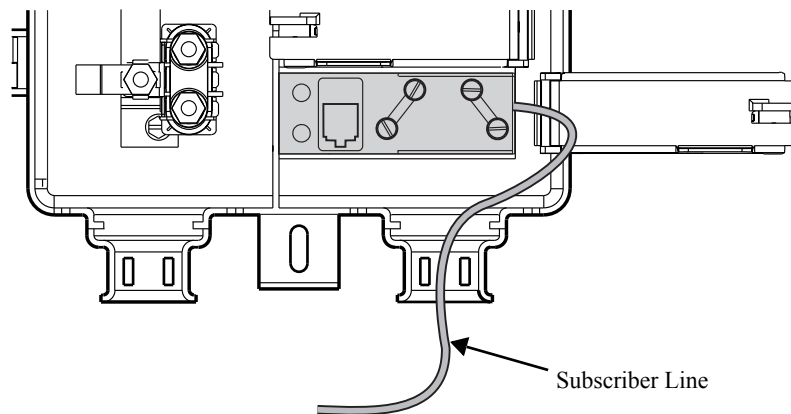

Figure 8. *Inserting the Subscriber Wires*
- 1 Thread the subscriber wire pairs through the hole made earlier in the right-hand rubber grommet (see Figure 8).